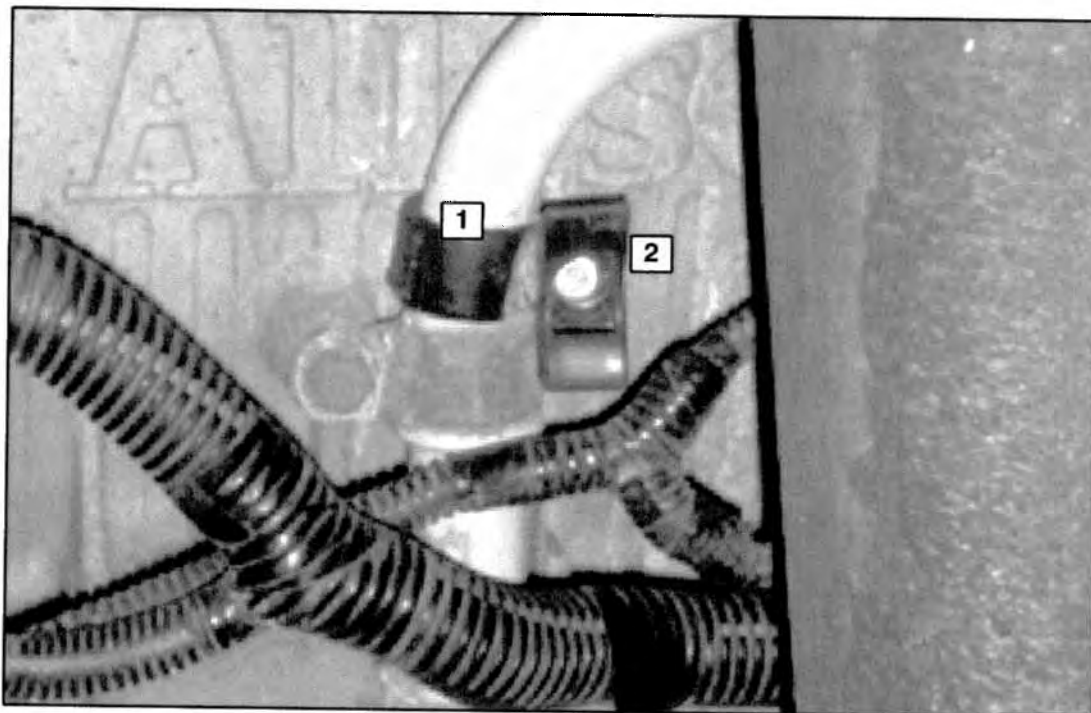

Figure 2.
4. Using the p-clamp removed in Step 3. , mount the tie base, p/n 07-08-4525, using hardware p/n's 19-1-825, 19-3-228, 19-02-6063 and 19-02-6035 (refer to Figure 2).